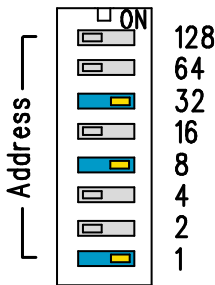

Figure 12 MAC Address DIP Switch Example
- 4 DIP switches for setting the device MAC address: see Figure 12 \(page 16\)